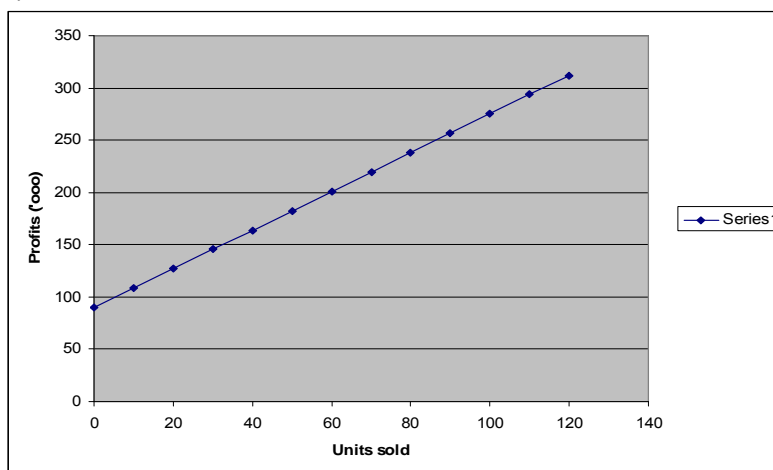

Figure 19
5. From Figure 19, we see that if Profit = 300, then items manufactured is approximately 115.